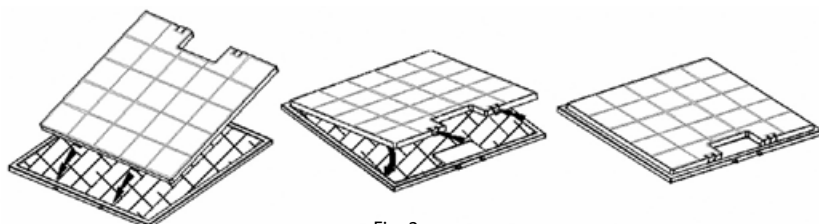

Fig. 2
2. Mount new carbon filters to the metallic ones (Fig. 2), and put the set back.